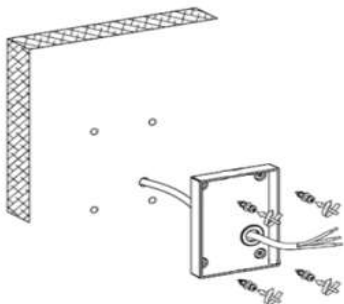

Fig. 1
- Fix the baseplate using the screws and wall plugs provided (see Fig. 1)